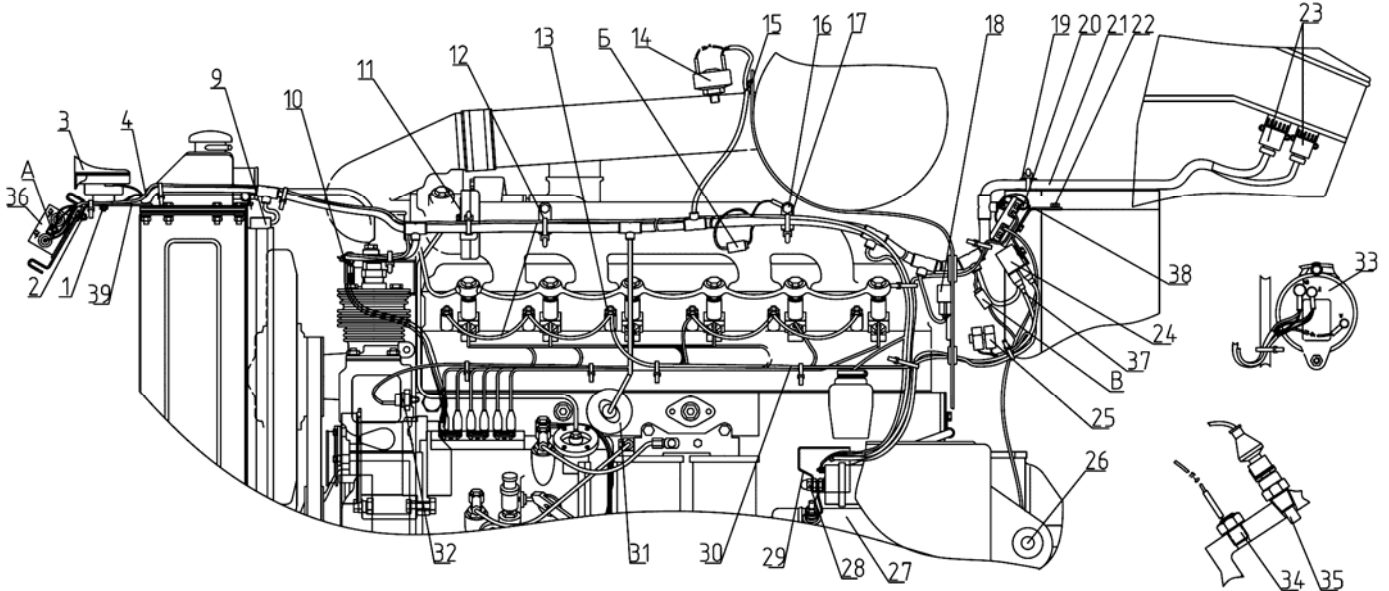

Figure 11.1
- 1) disconnect from generator 33 (Figure 11.1) terminals “14V”, “D” and “W”;
b) to dismount harness 21 (Figure 11.1) of engine electrical equipment (start-up system 24 C), perform all operations given in item “a” (see above);
c) to dismantle harness of voltage converter 4 (Figure 11.1) (start-up system 24 C) do the following:
To dismantle harness 21 (Figure 11.1) of engine electrical equipment (start-up system 24 C), perform all operations given in item "a" of section 11.1.1 "Dismounting electrical equipment elements of engine (MMZ) mounted on tractors BELARUS-1221.2/1221B.2";
To dismantle harness of voltage converter 4 (Figure 11.1) perform operations given in item "B" of section 11.1.1 "Dismounting electrical equipment elements of engine (MMZ) mounted on tractors BELARUS-1221.2/1221B.2";
a) to dismantle harness of glow plugs 30 (Figure 11.1) do the following: